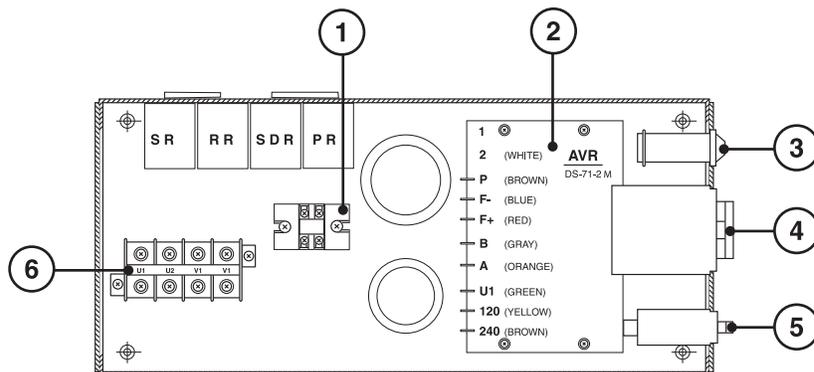

Figure 24: Control Box Components.
3. Generator excitation is provided by activation of the pre-heat circuit and electrical output voltage is controlled by the automatic voltage regulator (AVR) located in the control box (Figure 24, Item 2).
CONTROL BOX (Figure 24)